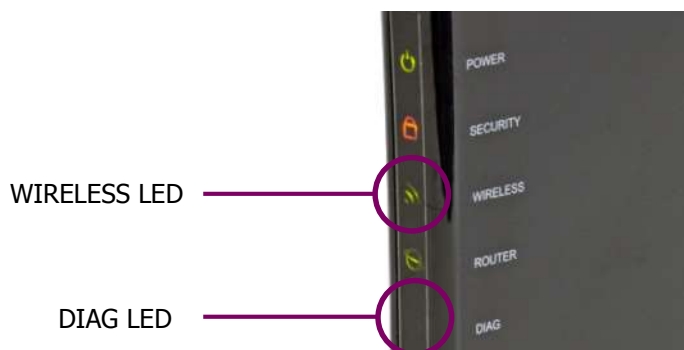

Figure 20 Wireless router LEDs indicate ready for use
8. Wait for the DIAG LED on the router to go out and ensure that the WIRELESS LED is lit (Figure 20).